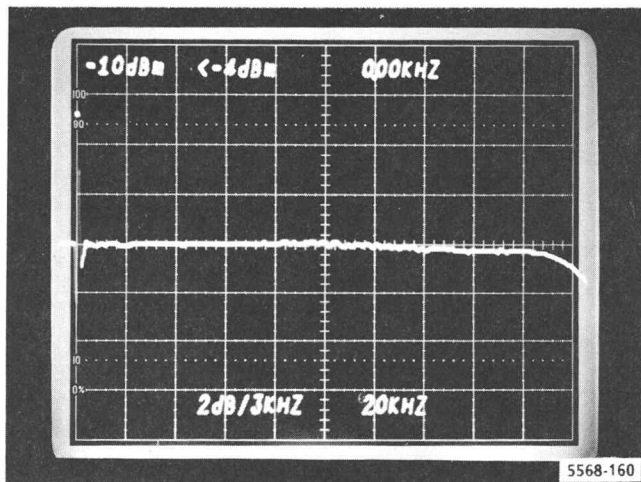

Fig. 4-33. Typical display when checking deviation out flatness.
- n. **CHECK** that the DEVIATION OUT response is flat within 0.5 dB from 30 Hz to 150 kHz. See Fig. 4-33. Turn "B-(Save A)" off.